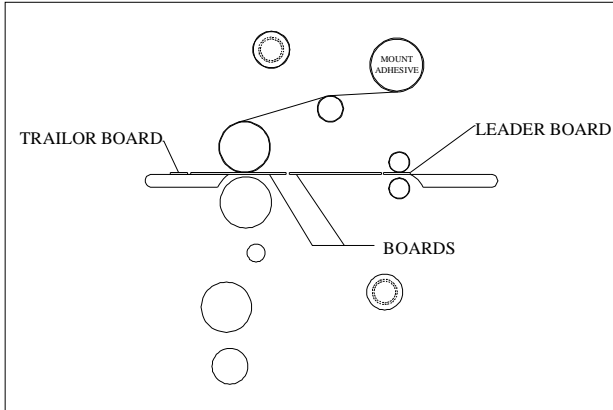

Figure 30
1. Load the laminator as illustrated in (Fig. 30). Remove chill idler.